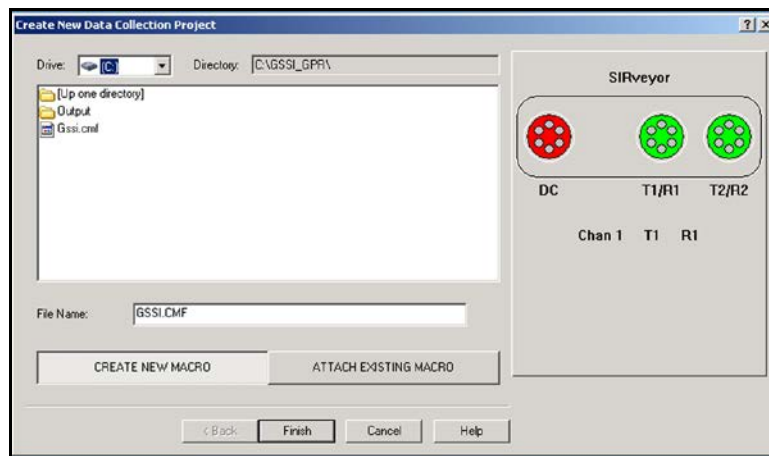

Figure 30: Attach a Macro or Create a New One.
- 7** This screen controls your collection parameters. Most of the time the default settings will be adequate. To access settings for different applications click the small arrow in the Config Type (1) option.
- For example, if you are scanning a concrete slab to find reinforcing bars, choose CONCRETE. Then choose your antenna type under Config Name (2). An X after the name is used to denote a cross-polarized antenna that is used 90 degrees to its normal orientation. Common data collection parameters will be automatically set.
- 8 Check to make sure that Scans/ft (7) is adequate for your application. The general rule is the more scans/unit that you collect, the slower your collection speed, the larger your data file, and the more stretched your file will appear. When you are finished, click Next >.
- 9 The next window (Figure 30) will prompt you to either create a new macro, or attach one that you have already created. A macro is nothing more than a saved list of data collection parameters. These parameters include: filters, time range and gain settings. These will vary from job to job, so it is possible you will have many different macros for different survey objectives.